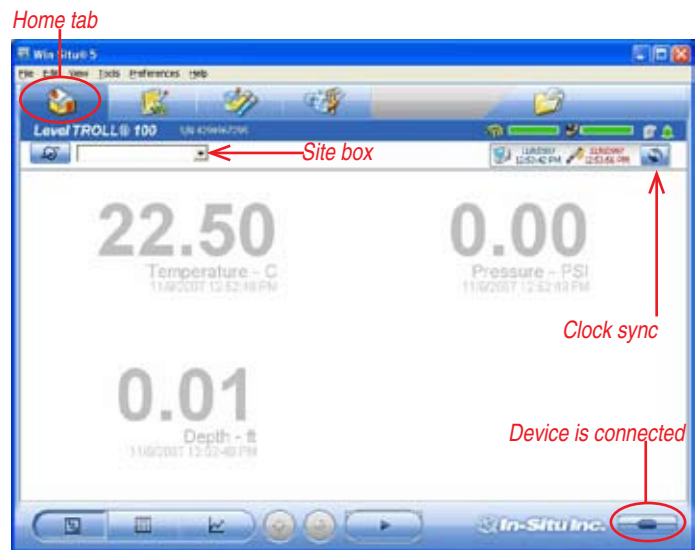

Fig 2. Home tab with device readings
- Software will connect and display a reading of all supported parameters in the Home tab (Fig. 2).
Data collection schedules depend on the device clock, shown with the system (PC) clock near the top of the screen when connected (Fig. 2). If the device clock is red, synchronize it to the system clock by clicking the Clock Sync button (Fig. 2).
- To set the new site in the Rugged TROLL: Return to the Home tab, click the down arrow beside the site box (Fig. 2), and select your new site.